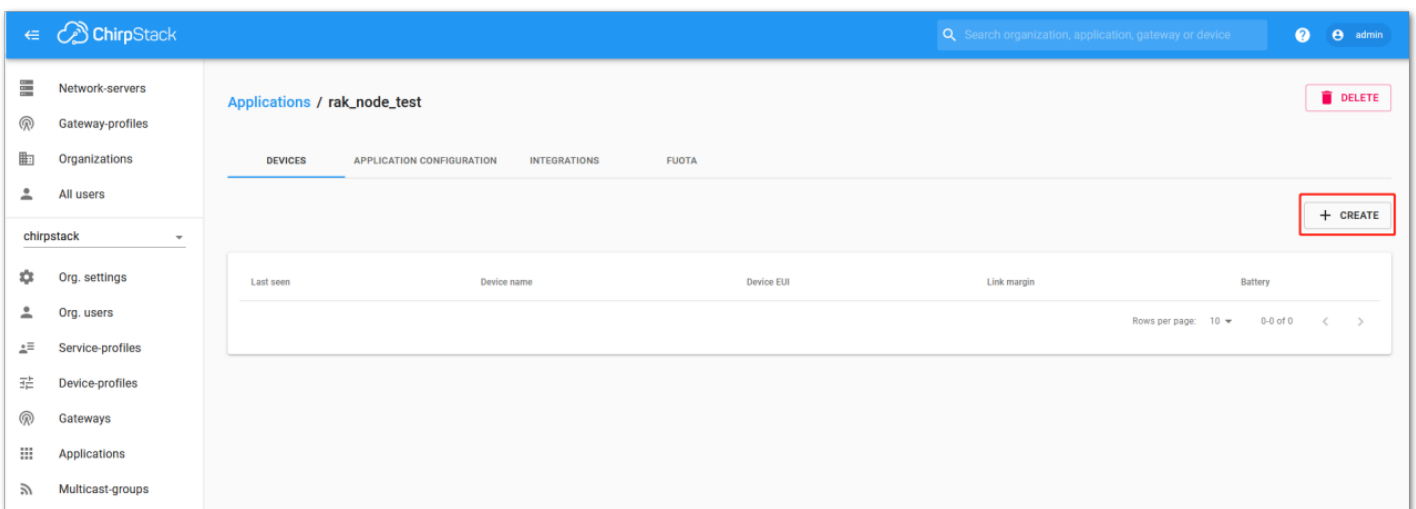
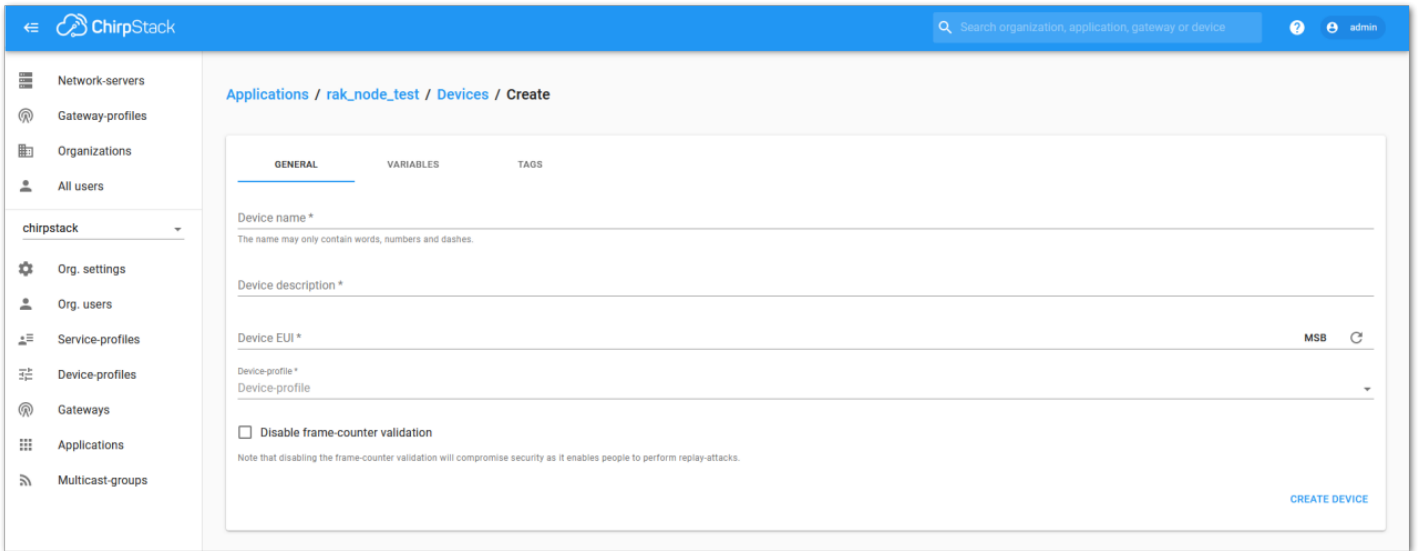

**Figure 195:** List of Applications Created
**Figure 196:** Device Tab of an Application
1. Choose the **Application** created in the previous step, then select the **DEVICES** tab, as shown in **Figure 195** and **Figure 196**.